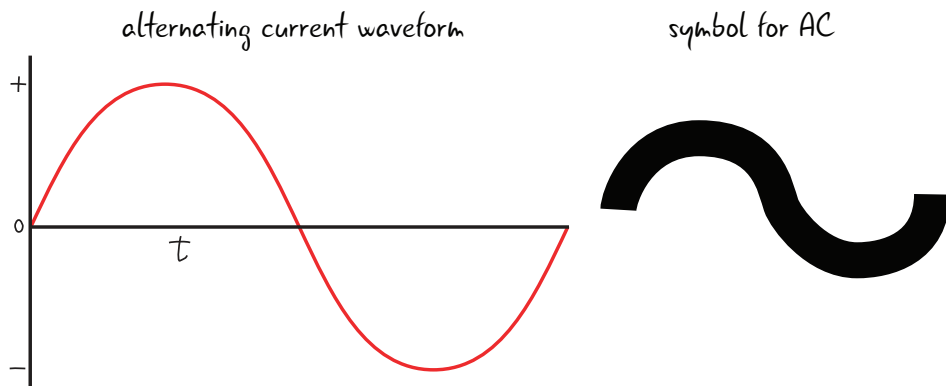

FIGURE 5.10: Alternating current
There are two different types of electrical flow: alternating current (AC) and direct current (DC). The electricity that comes out of your wall socket is AC, whereas our Arduino and many small electronic projects and components use DC. In alternating current, represented by the drawing in Figure 5.10, the flow of electricity changes direction. In direct current there is only one direction to the flow.